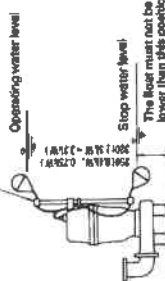

Fig. 3
- (8) For automatic pumps (DVSJ), install the floats as shown in Fig. 3. The pump may not start if a float switch touches the well of the water tank or the piping. Install the floats so that this will not happen.